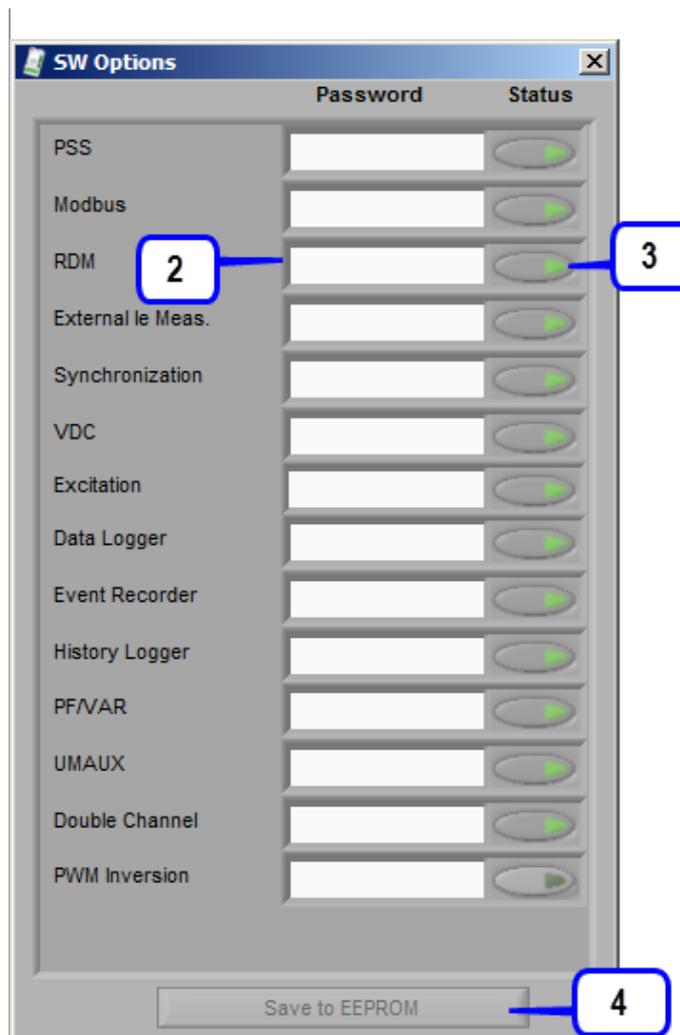

Figure 6-16. The SW Options window allows the user to enable optional software in the AVR.
2. Type the password provided by ABB (case sensitive) in the white box located beside the SW-option intended to enable (*Figure 6-16*). Click the Enter key on the keyboard in order to validate the password.